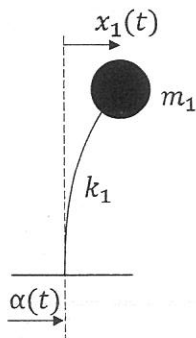

Figure 1 A light pole model
- (1) Consider seismic responses of a light pole. The damping can be ignored.
- a) The light pole is represented as a single degree of freedom system with mass m_1 and stiffness k_1 as in Figure 1. The horizontal displacement of the light pole relative to the ground is denoted as $x_1(t)$. Obtain the equation of motion of this system when the horizontal ground acceleration is $\alpha(t)$.